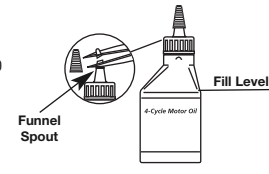

Fig. 4
Your unit is supplied with one 3.04 fluid oz. (90 ml.) bottle of SAE 30 SF, SG, SH oil (Fig. 4).
- Unscrew the top of the bottle of oil and remove the paper seal covering the opening. Replace the top. Next, cut the tip off the funnel spout (Fig. 4).